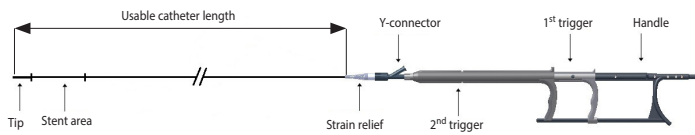

Figure 1 – Stent system
- A stent system, as shown in Figure 1, comprised of an inner tubing assembly that contains the guide wire lumen, a stent delivery sheath and a system stability sheath, which are linked together by means of a handle. The guidewire lumen terminates distally in an atraumatic delivery device catheter tip and originates proximally in a luer hub designed to accept a compatible guide wire.